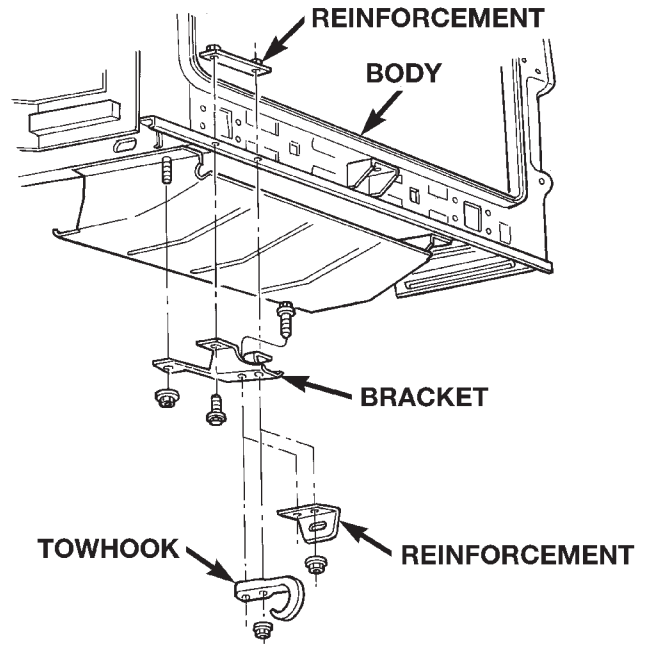

Fig. 7 Rear Tow Hook
- (1) Remove the nuts and bolts that attach the tow hook to the lower crossmember (Fig. 7).
- (2) Remove the tow hook from the lower crossmember.